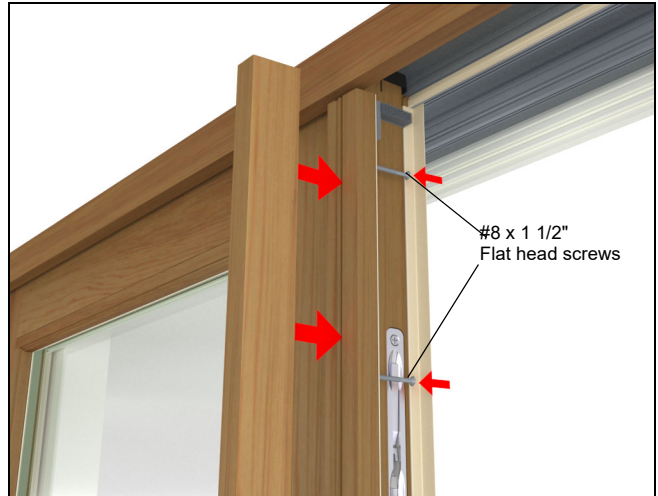

Figure 167
14. Fasten mull casing cover to the mull base using #8 x 1 1/2" flat head with screws. See figure 167.